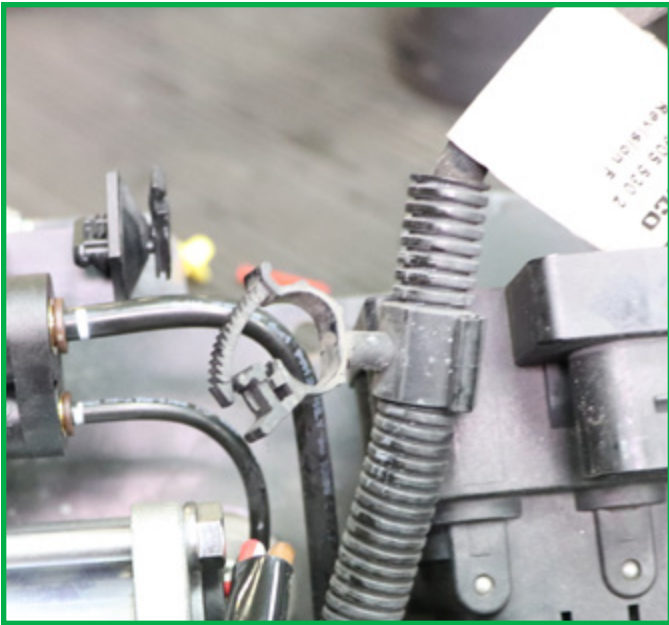

FIGURE 30
6. Clip the new compressor plug to the existing harness on the assembly. (Figures 30, 31)